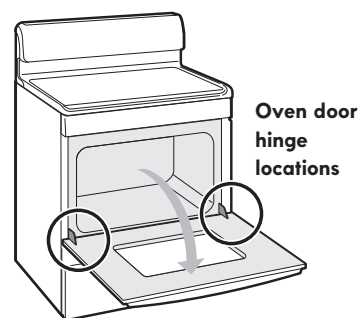

Figure 17: Oven hinge locations
1. Open oven door completely (horizontal with floor - Figure 17).
3. Fully open the oven door (horizontal with floor - Figure 17).